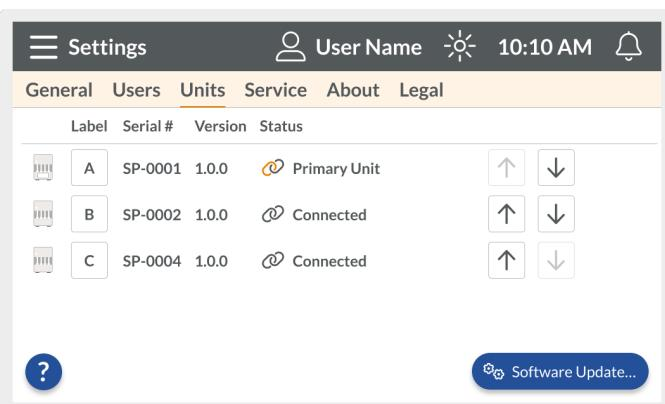

Figure 80. Software Update in the Units Tab
6. Tap  **Software Update...** (Figure 80). A Software Update dialog will be displayed.